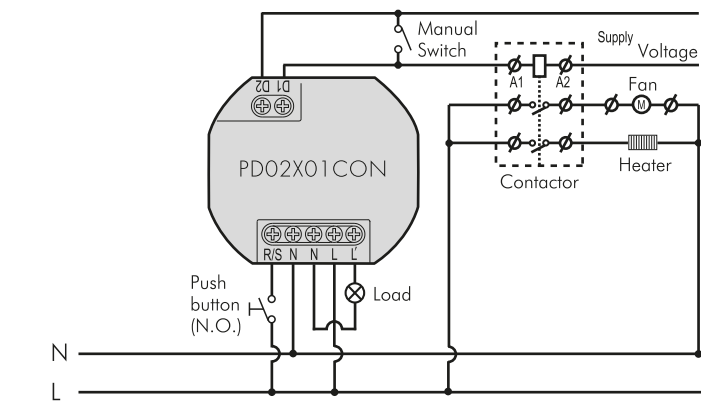
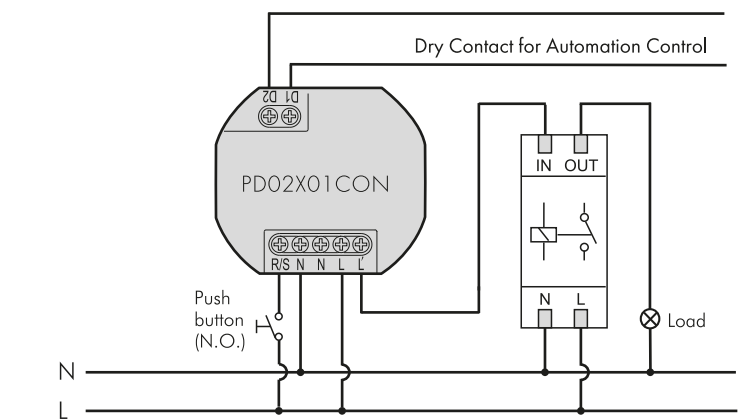
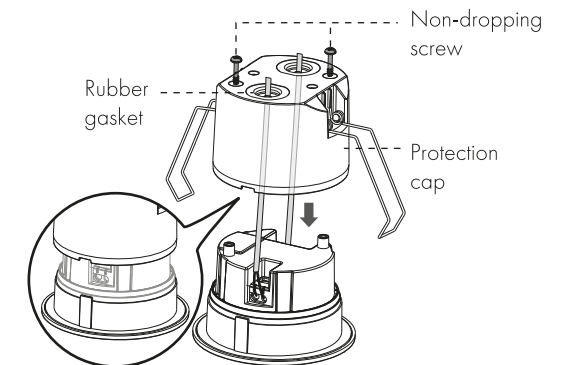

FIG.5
FIG.6
FIG.8
3.3.1.1 Normal operation (See FIG.5)
3.3.1.2 Staircase timer switch controlled by one detector (Time1 should be set to  $\sqrt{ts}L$ , See FIG.6)
3.4.2 Use screwdriver to break the rubber gasket, then feed cables through it (See FIG. 8).
3.4.3 Please refer to illustration of FIG.5 - FIG.6 for correct wiring and get the gap of the protection cap to be aligned with the bulge of housing (See FIG.8), then screw the protection cap and fit on the cable clamp.